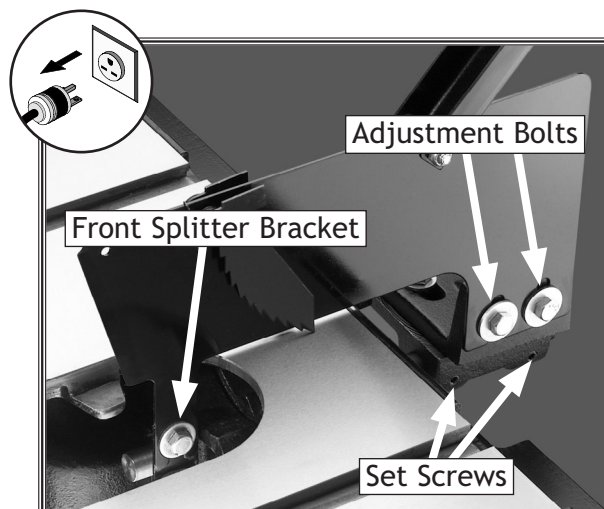
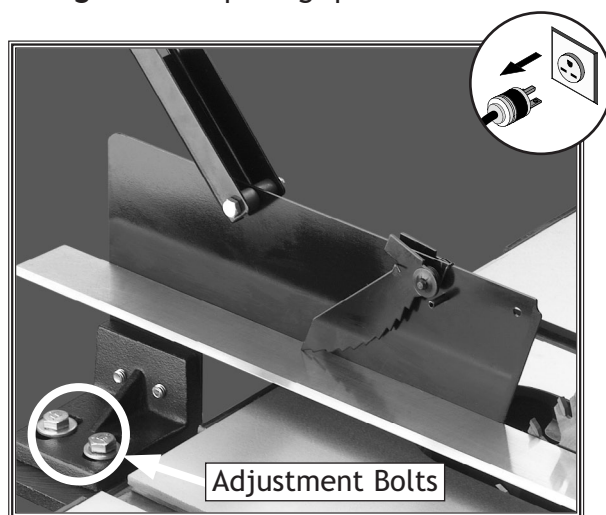

Figure 71. Splitter attachment locations.
Figure 73. Aligning splitter to blade.
2. Loosen the set screws shown in **Figure 71** to allow the blade splitter to rotate on the support shaft.
3. To align the splitter to the blade, loosen the two adjustment bolts shown in **Figure 73** and the two adjustment bolts on the bracket that attaches the front of the splitter shown in **Figure 71**.